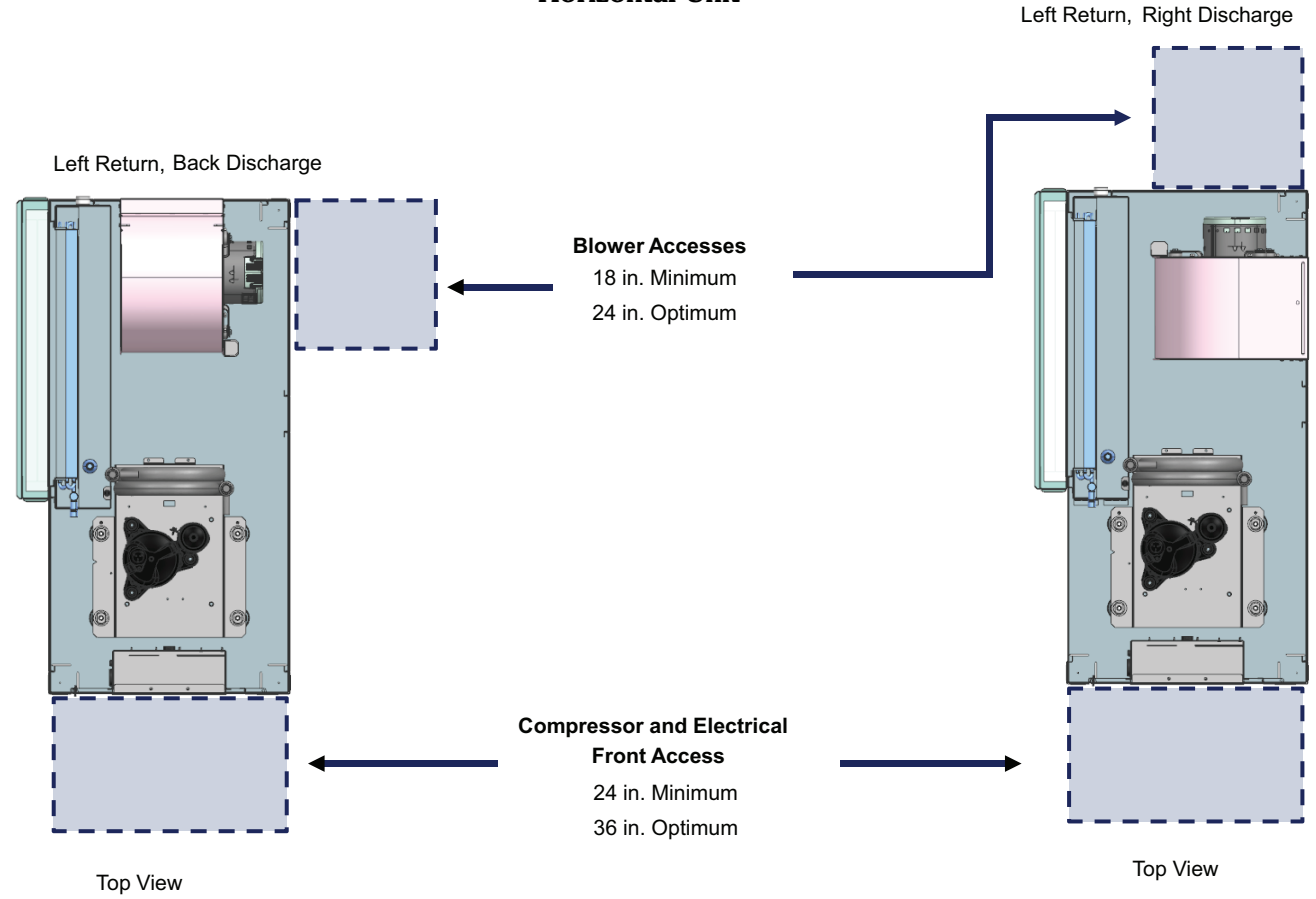

Fig. 4 — 50WC Service Clearance
6. Provide adequate clearance for filter replacement and drain pan cleaning. Do not allow piping, conduit, etc. to block filter access. See Fig. 4.
7. Provide sufficient access to allow maintenance and servicing of the blower and blower motor, compressor, refrigerant circuit, controls, and coils. See Fig. 4.